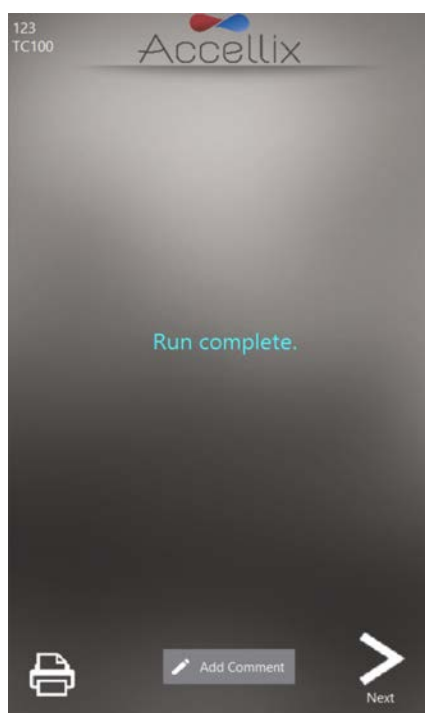
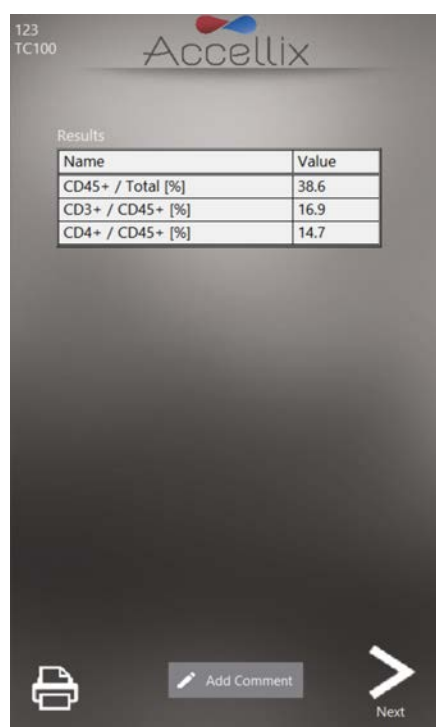

Figure 33: Example of Run Complete screen
Figure 34: Example of On-screen Results Report
The following two screens are examples of potential result displays (Figure 33 and Figure 34):
- For an assay which produces an on-screen results report, e.g., T Cell RTF (L) Assay, a **Results** screen will be displayed on the screen at this point. See example of on-screen **Results** report in Figure 34.